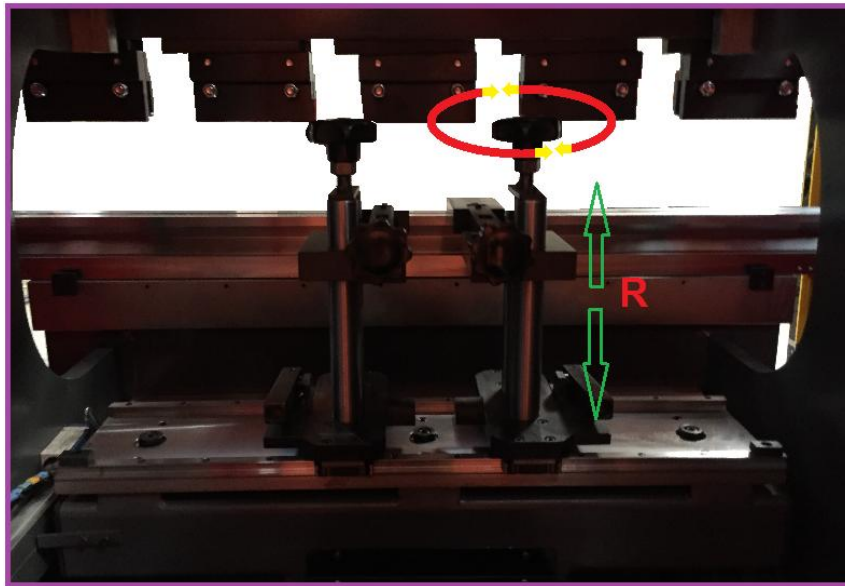

Figure-43: R axis adjustment realized by manual.
**2) R axis adjustment** realize by manual. You can adjust the R axis level by turning the handwheel. (See Figure-43) .